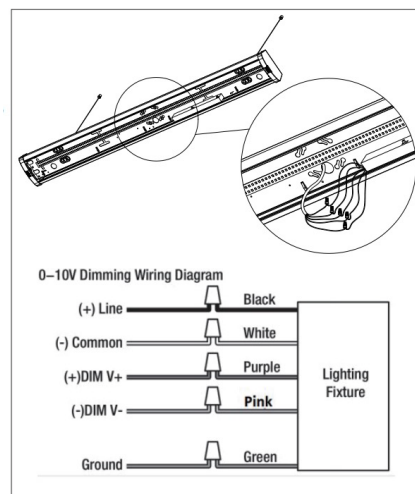

Figure 16
6. Connect the supply and dimming wires as shown in Figure 16.